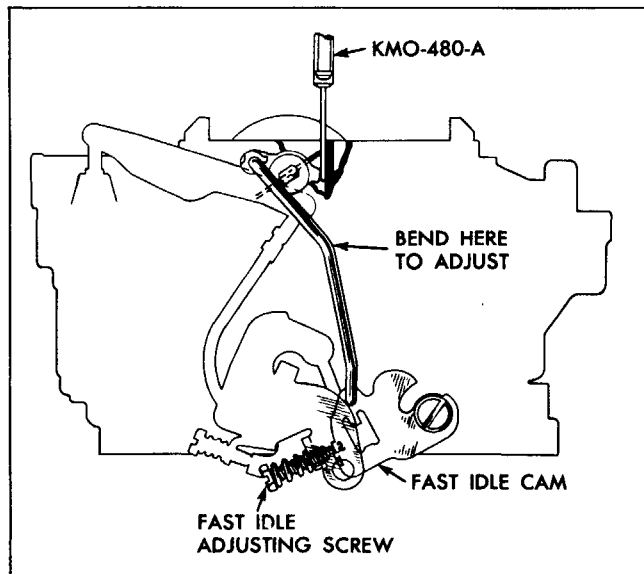

Fig. 6B-134 Checking Choke Rod Adjustment
2. Hold throttle closed and measure from top of air horn casting to top of pump plunger rod (Fig. 6B-133). Distance should be $1\frac{1}{16}$ ". Bend pump rod where shown to correct.